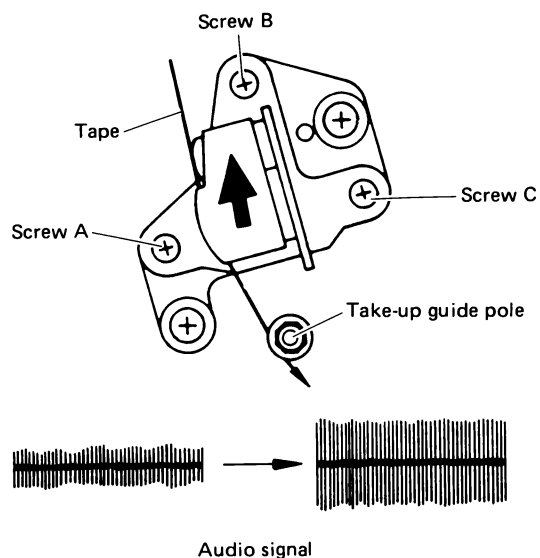

Fig. 2-31 A/C head adjustments
- A/C head height and azimuth adjustments (See Figure 2-31.)